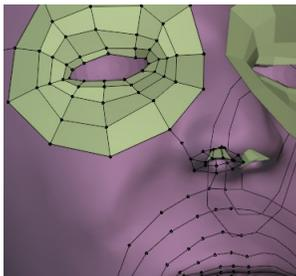

Figure 7-10 Flipped normals around nostrils
13. To work on other areas of rings, extrude a vertex out towards the ear, nostril, mouth and neck and build up rings of quads in a similar way to the eye. You can see in Figure 7-10, where the faces have been built for the nostrils, that Blender sometimes points the normals inwards instead of outwards. This happens if